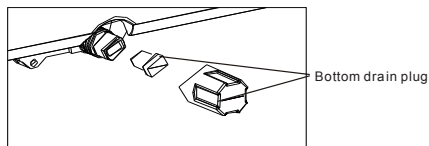

Fig.21
- When the water level in the bottom tray reaches a predetermined level, the unit beeps 8 times and the digital display area shows "P1". At this time the air conditioning/dehumidification process will immediately stop. However, the fan motor will continue to operate (this is normal). Carefully move the unit to a drain location, remove the bottom drain plug and let the water drain away (Fig.21). Reinstall the bottom drain plug and restart the machine until the "P1" symbol disappears. If the error repeats, call for service.
- Remove the plug from the bottom drain outlet, all the water in the bottom tray will drain out (See Fig.21).